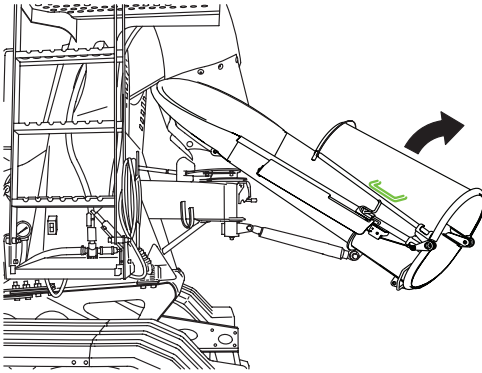

Figure 115
2. Grip the fold-over chute using the correct hand-holds (Figure 115).